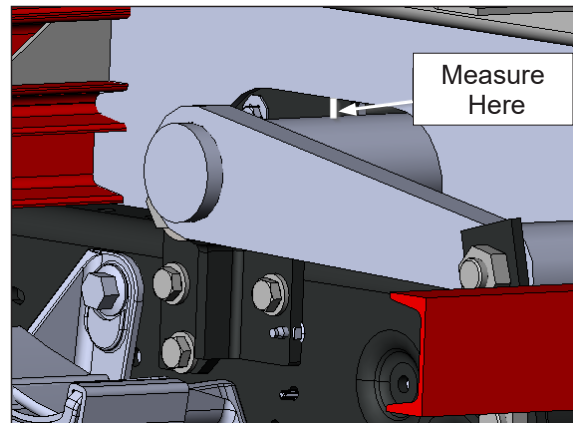

Figure 2 — No Evidence of Interference; Measuring Vertical Clearance
- If there is no evidence of interference (refer to Figure 2), perform steps a through d shown below.